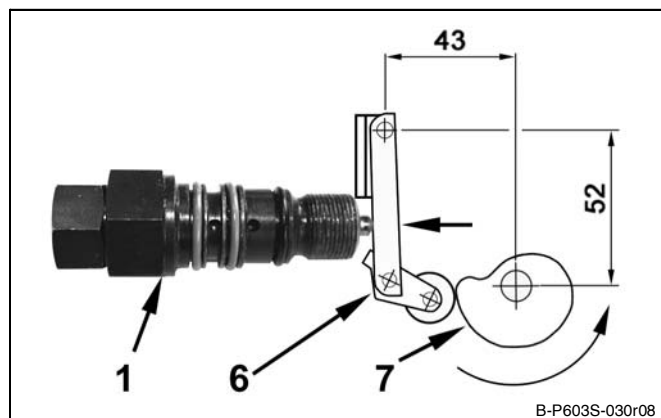
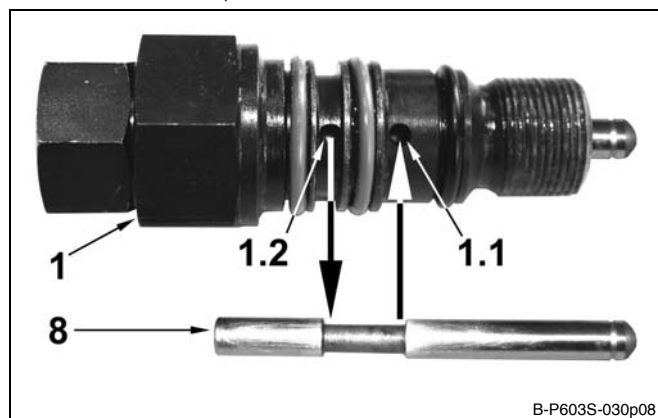

Fig. 6 Activated switch joint on the venting element
Fig. 10 Venting in the venting element
- The venting element 1 (fig. 6) is activated.
- Thereby, the mainline of the lubrication system is depressurized by the venting element (see fig. 10). The lubricant can flow back into the reservoir from the mainline. This means, by the redirection of the eccentric 7 (fig. 6) the switch joint 6 presses the slide 8 into the venting element. This allows for the pressure relief between the inlet and the outlet bore 1.1 & 1.2 to the reservoir.